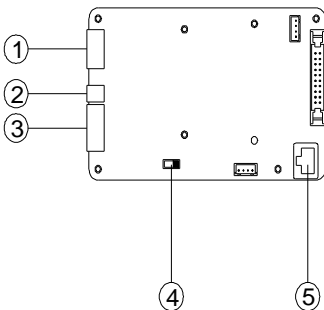
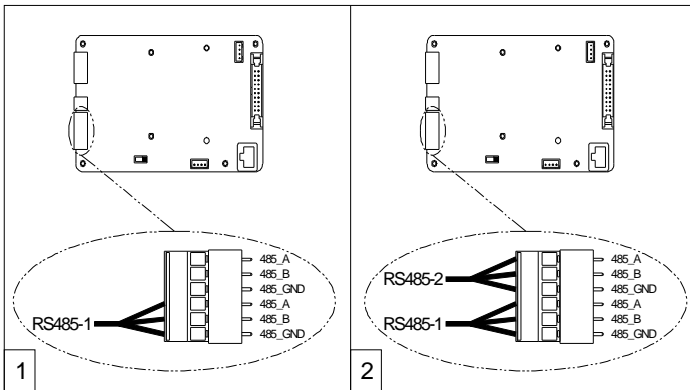

Figure 3-25 Communication Connection Interfaces
Figure 3-26 RS485 Connection of wirebox
RS485 communication cables are connected via the 6-pin connector to the port labeled (2) in Figure 3-25. When creating a network of multiple inverters, the cables are terminated to the same 6-pin connector and 6-pin connector. Figure 3-26 shows a single inverter communication connection in (1) and a network configuration in (2).